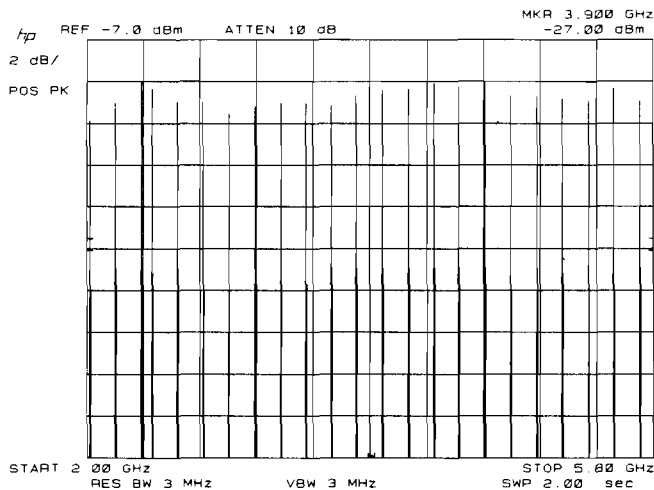

Figure 3-95.
71. On the spectrum analyzer, key in TRACE A **CLEAR-WRITE**, **SWEEP TIME** 2s, MARKER **OFF**, **HOLD**. As the spectrum analyzer completes each sweep, a series of approximately 22 new responses should be displayed, as shown in Figure 3-95. The peaks of these responses coarsely outline the spectrum analyzer frequency response.